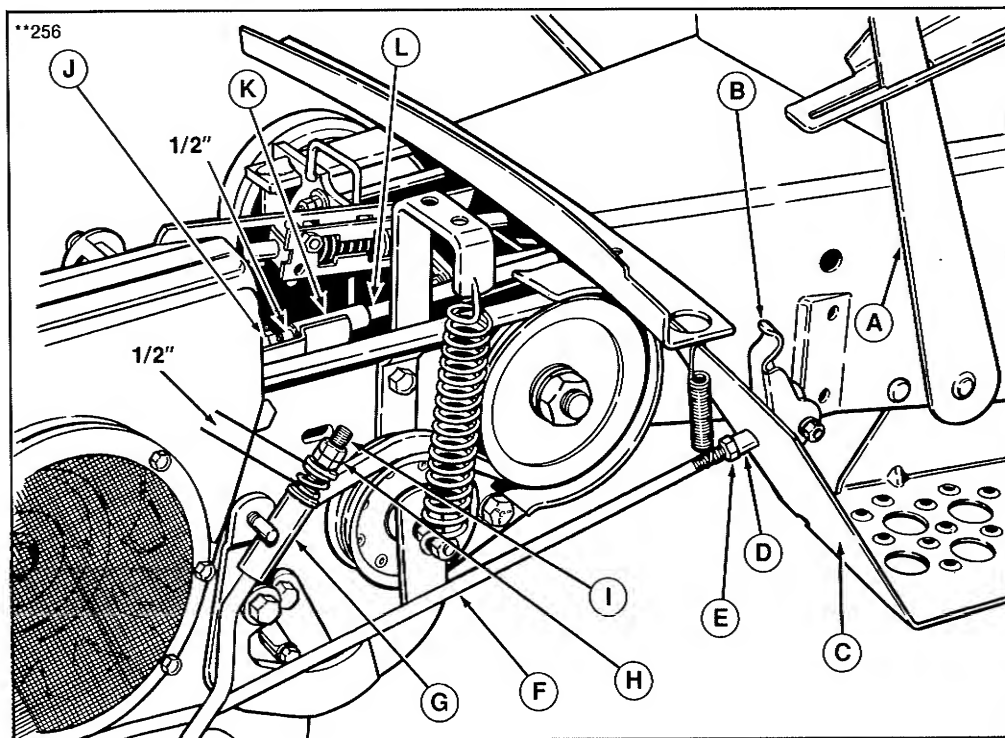

Figure 25. Brake & Clutch Adjustment
To adjust parking brake, loosen the jam nut (E, figure 25) at parking brake rod end. Rotate the parking brake handle (B) clockwise until it is tight and pulled up against fender as shown. Operate the brake handle to see if it is too loose or too tight. It should be tight against fender when set but not too tight to operate. When proper adjustment is made, tighten the jam nut.
1. To adjust the foot brake, engage the parking brake. Adjust jam nuts (H, figure 25) on end of foot brake rod to provide 1/2 inch (12.7 mm) spring length between washers. Depress the pedal to engage the brake. The drive belt should be slack and free of idler pulley. If not, check clutch adjustment (step 2). Test operate the tractor. If brake does not stop the tractor, see your dealer.
2. To adjust tractor clutch, adjust jam nuts (J) on clutch rod so there is 1/2 inch (12.7 mm) spring length between washers with clutch-brake pedal in up position.